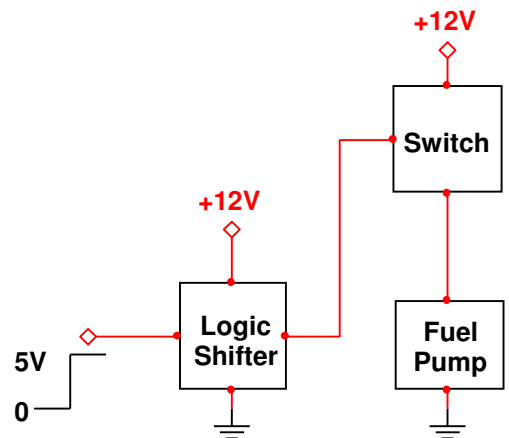

Fig. 8
8) High-side switches are commonly found in automotive applications, particularly when a grounded load is required for safety reasons. Consider a fluid pump based on a 12V DC motor. As shown in Fig. 8, the electronic control unit (ECU) provides 0-to-5V digital logic levels. The design constraints are below: